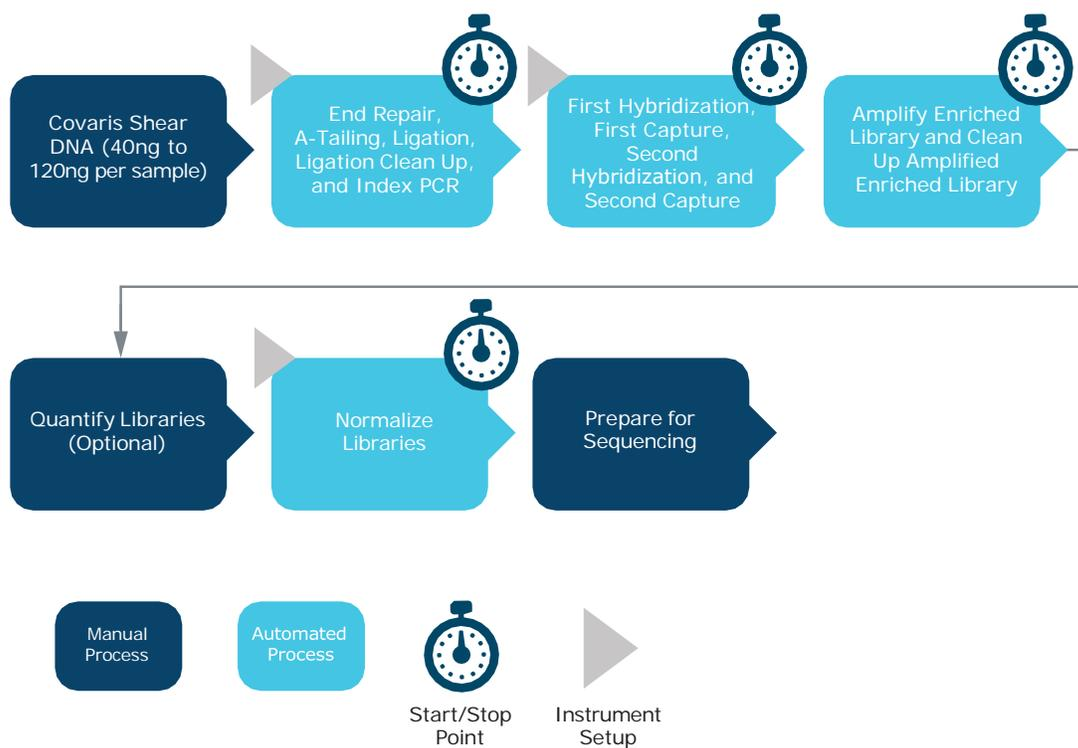

Figure 1: Illumina TruSight Oncology 500 DNA Automation Kit App Template workflow
The Illumina TruSight Oncology 500 DNA Automation Kit App Template for DNA Only allows for the creation of libraries compatible with Illumina sequencing platforms. Following batch creation, Covaris sheared DNA samples can be loaded onto the library preparation reaction vessel (RV) and prepared into Illumina libraries through end repair/A-tailing, adapter ligation, and index PCR. Regions of interest are hybridized to probes, magnetically captured and eluted, and enriched libraries are PCR-amplified. An optional fluorometric quantification step may be used to ensure there is sufficient library available before bead-based normalization. After normalization, the libraries are ready to pool for sequencing. The specific automated and manual steps of the workflow are detailed in Figure 1 below.